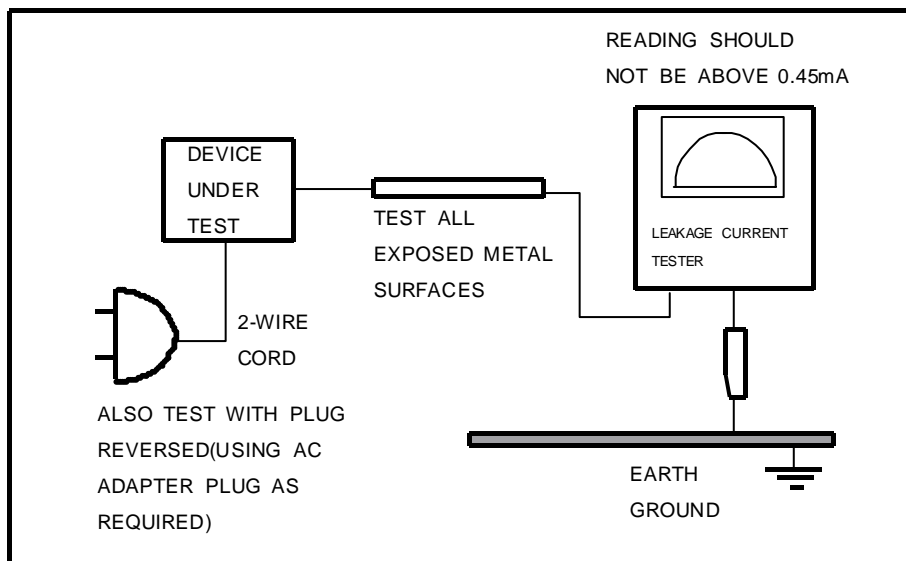

Figure 1
- 4) leakage current check (figure 1)